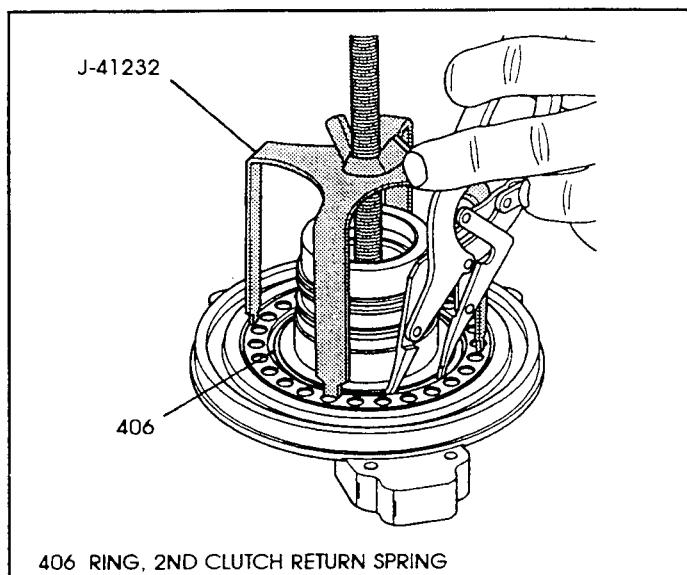

Figure 158
- Install compressor tool J-41232 on the driven sprocket support, as shown in Figure 158, and compress the return spring.
- Install the 2nd clutch snap ring (406) as shown in Figure 158, and remove compressor tool after snap ring is installed.